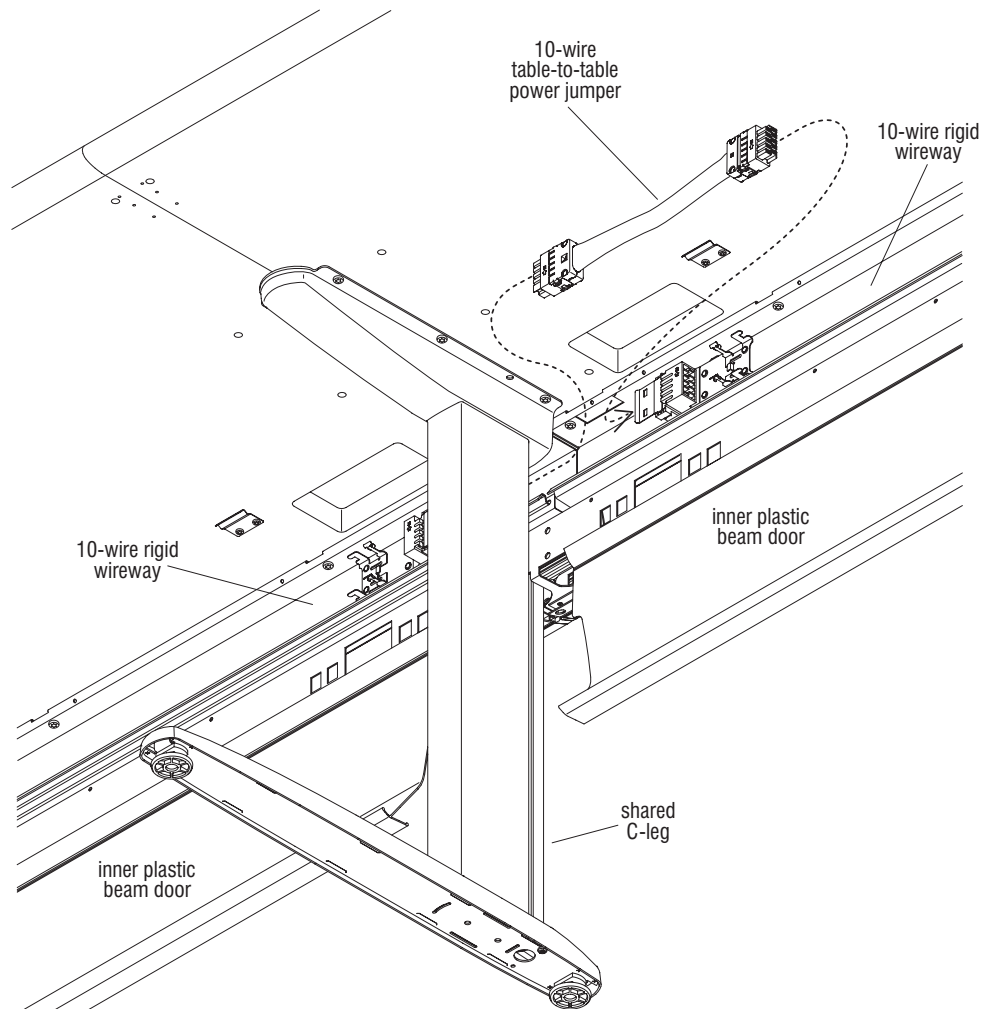

Figure 3
1. Un-clip and open the inner plastic beam doors to access the 10-wire rigid wireway in the rectangular beams (Figure 3).
2. Route the 10-wire table-to-table power jumper behind the shared C-leg. Snap the connector ends into the forward most left- and right-hand sockets of the rigid wireway while bending the middle of the connector to the back of the beam (Figure 3).